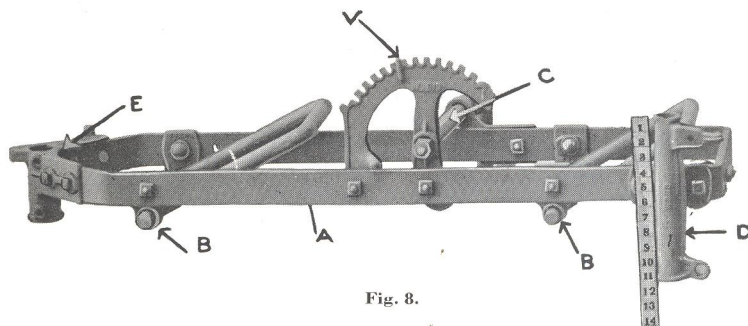

Fig. 8.
**The Frame**—which is the foundation on which its life depends—is made in one piece, from a single heavy bar high carbon steel (A, Fig. 8). Then, to add to the great strength which one piece insures, the axle of the land wheel extends across almost at the middle (C, Fig. 5) and is securely fastened to both sides of the frame, making a powerful brace where most needed. This axle also forms an ample support for the weight and strain of the plow. It distributes this great strain evenly upon the frame without any destroying twist. Most other plows, as you know, have the land wheel axle at the left hand side of the frame, and this short axle, with its liability to loosen the supporting bolts, and even cut them off under the twisting strain, has caused farmers an enormous expense in time and money.
We called attention to the firmness of the plow in the frame, and this is largely due to the short bails and bail brackets. They carry the great side strain of the plow bottom in the shortest and most rigid connection direct (B, Fig. 8) to the frame, insuring great durability and freedom from springing, and overcoming a most serious